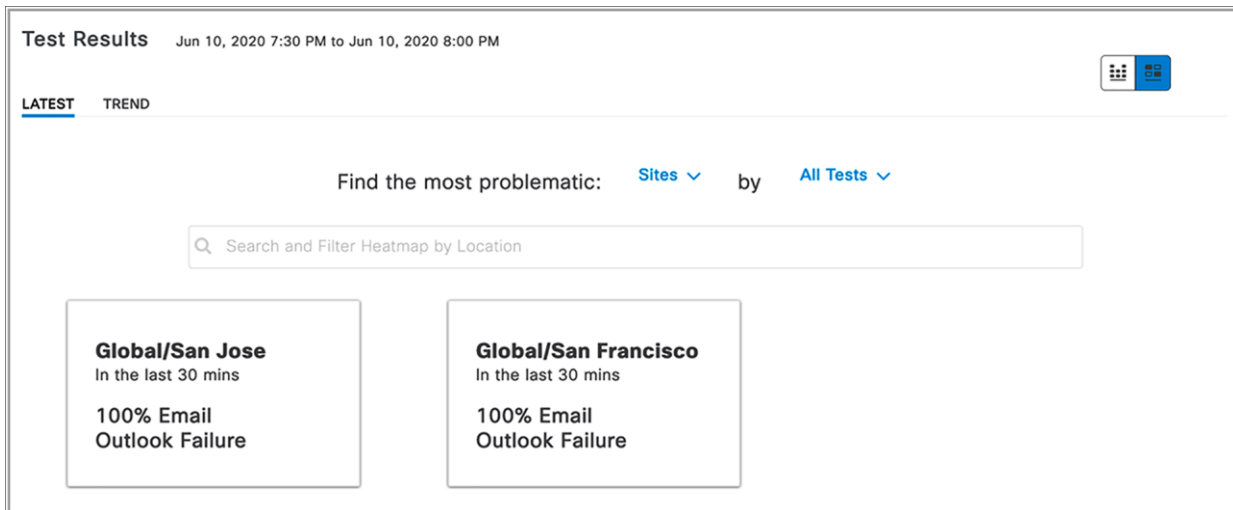

Figure 92.
- Observe that the page has changed into an insights view (**Figure 92**).
- Just as in the heatmap view, to filter the insights by specific site locations and/or tests, click the Sites and All Tests drop-down menus to make a selection (**Figure 92**).